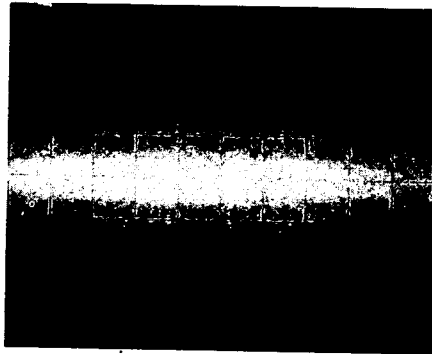

Figure 5-7. Waveform at A13TP2.
- d. Adjust "OFS-2" potentiometer A13R2 until dc level of displayed waveform is within 0mV  $\pm$ 1mV. Refer to Figure 5-7 which shows well adjusted waveform.